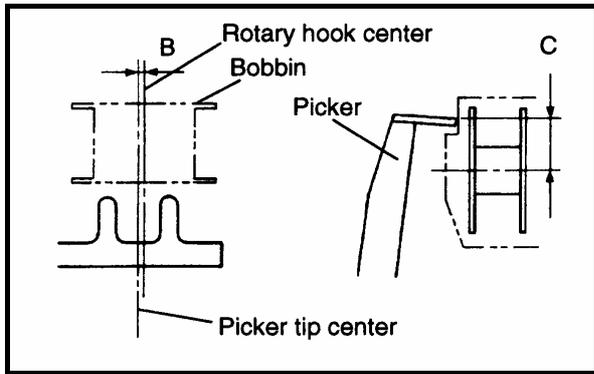

FIG.2
- (3) Clearance B between the picker tip center and the rotary hook center must not exceed 1mm (Fig.2).
- (4) The picker height C must be 7 to 9mm from the center of the rotary hook
- (2) Distance A from the needle center to the thread wiper hook tip must be 11 to 12mm during operation (Fig.2).